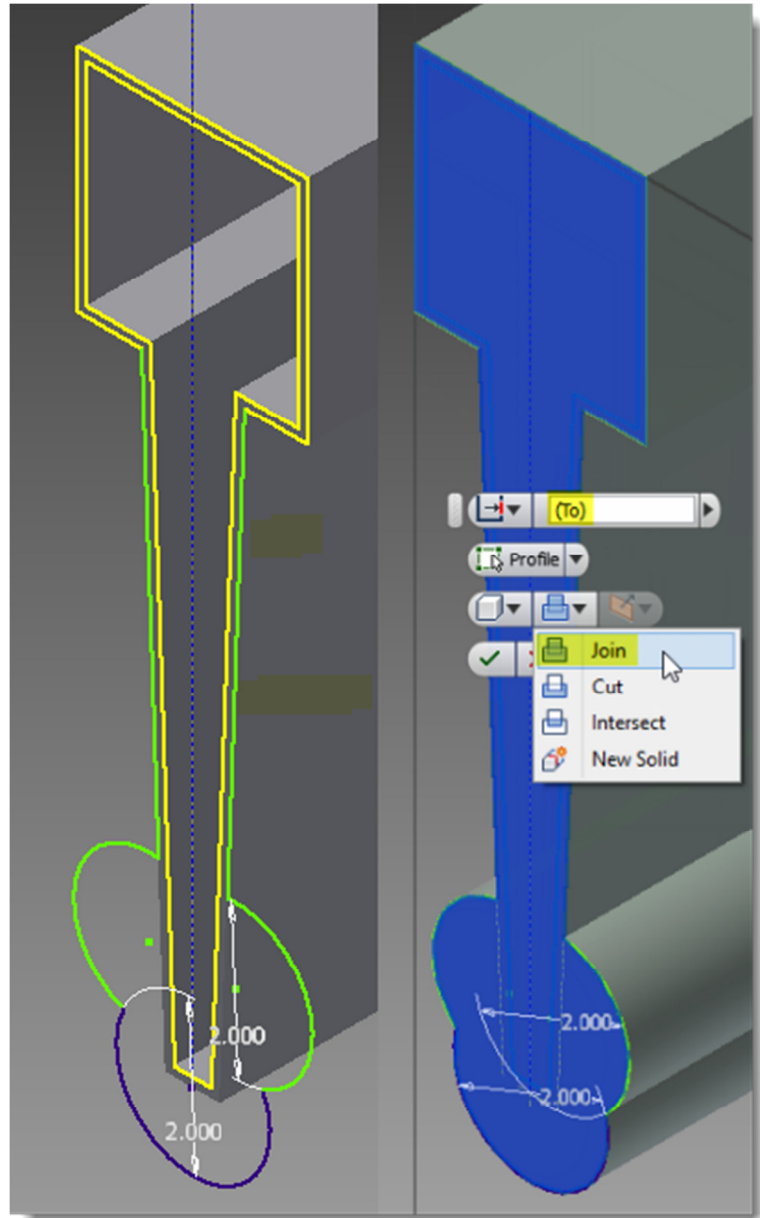

fig. 7
- 2) Right click on the face at one end and select New Sketch (like fig. 5). All of the edge geometry will already be copied up. Here I create something memorable and not necessarily fabricatable, just to evince the workflow. You or a fabricator can create whatever you like. So in my sketch I delete the outer four fin lines, I draw a circle centered on the end, and add two more circles on the sides and trim away any overlap. Again, you can create whatever you want here. When done, extrude the sketch back through the existing mullion using **Join** and **(To)** to create solid geometry all the way to the other end – see fig. 7.